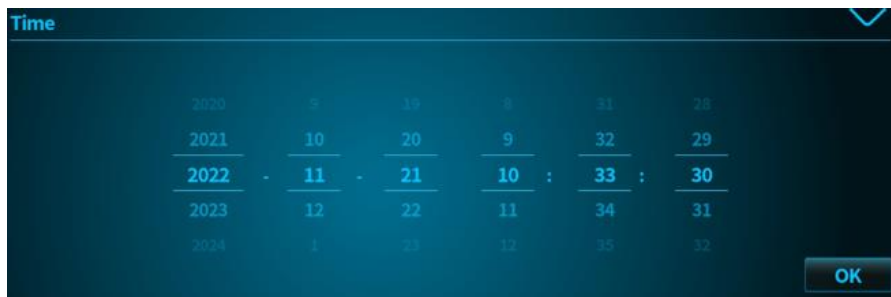

Figure D-4.1 Settings – Time
1. **Time:** Users can swipe the screen up and down to set the system date and time, and the selected numbers will be centered and highlighted. Users can touch < **OK** > to confirm and save the settings, as shown in figure D-4.1. The format of Time is: Year-Month-Day; hh:mm:ss.